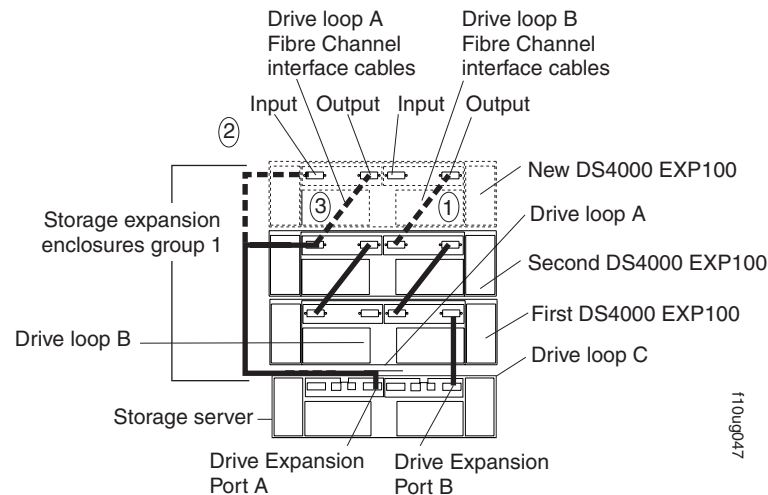

Figure 78. Add a new storage expansion enclosure to a redundant loop
Figure 78 shows the process of adding an additional storage expansion enclosure (in this case, a DS4000 EXP100) to an existing DS4100 storage server configuration. Drive loops A and B form one redundant fibre-channel loop.
In Figure 78, the existing DS4100 configuration already includes two DS4000 storage expansion enclosures. The dashed lines show you how to add a third
DS4000 storage expansion enclosure to the configuration. To add the new DS4000 storage expansion enclosure shown in Figure 78 on page 109, you would perform the following steps:
3. Make the fibre-channel connection marked 1 in Figure 78 on page 109 (drive loop B). Then power on the new DS4000 storage expansion enclosure and verify that it is recognized by the DS4000 Storage Manager software GUI.
4. Make the fibre-channel connection marked 2 in Figure 78 on page 109.
5. Make the fibre-channel connection marked 3 in Figure 78 on page 109 (drive loop A).